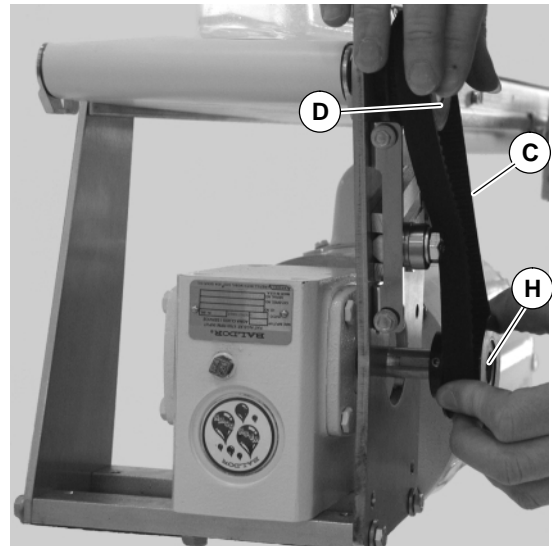

Figure 30
8. Wrap timing belt (C of Figure 30) around drive pulley (H) and driven pulley (D). Attach drive pulley (H) to gear reducer shaft.